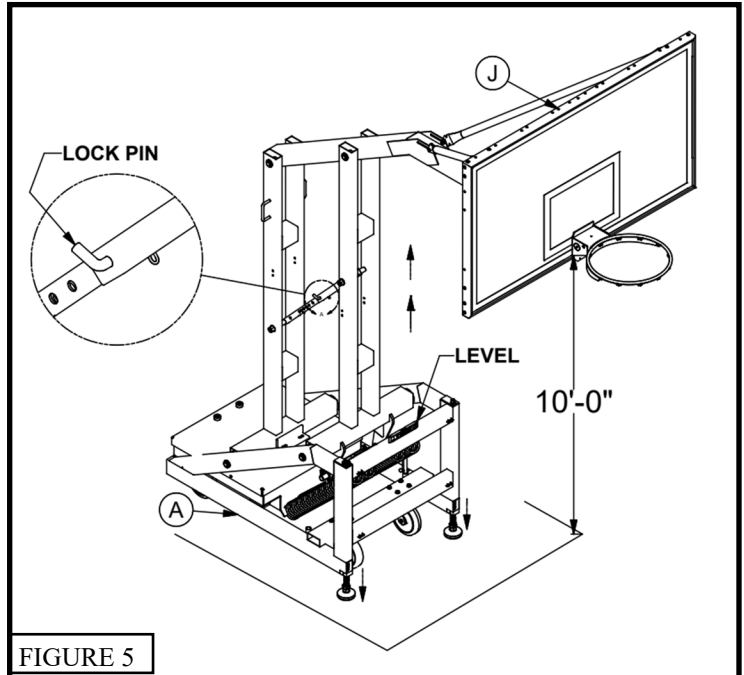

FIGURE 5
7. Tighten the *Breakaway Goal Hardware* (M) making sure that the *Backboard* (J) and *Breakaway Goal* (L) are level left to right and the *Backboard* (J) is perpendicular to the floor.
8. Before attaching *Backboard Braces* (E) to the unit, raise the goal to the official 10' playing position and insert the lock pin into the telescoping brace. See Figure 5.